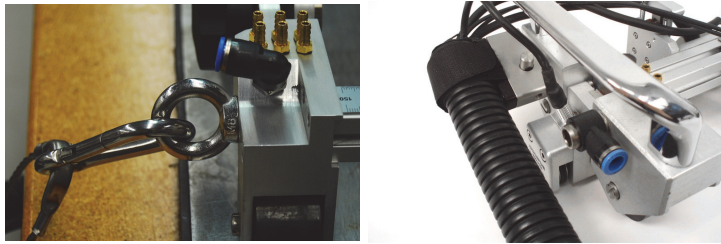

Figure 3-1 Attach the umbilical cable to the attachment ring
2. Attach the umbilical cable or a safety line to the attachment ring or the PMA Flex to the umbilical bracket (Figure 3-1 on page 63).